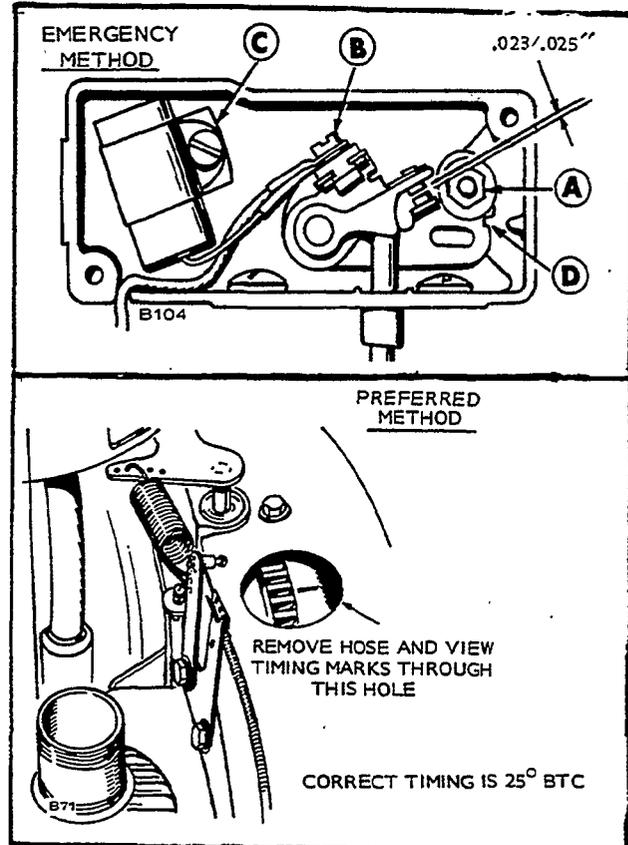

FIGURE 11. IGNITION AND TIMING ADJUSTMENT
3. Refer to Figure 11. Remove mounting nut (A) and pull the points out of the box just far enough so screw (B) can be removed and leads disconnected.
4. Remove screw (C) and replace condenser with a new one.
5. Replace points with a new set but do not completely tighten mounting nut (A).
8. Using a screwdriver inserted in notch (D) on the right side of points, turn points until gap measures .023 to .025" with a flat thickness gauge. (Be sure feeler is clean.) Tighten mounting nut and recheck gap.